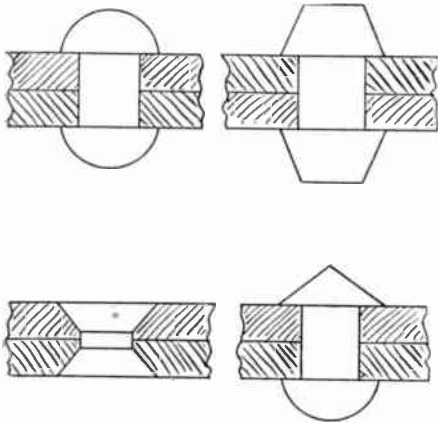

Fig. 1
**MACHINE ELEMENTS.** — We will continue machine fastenings with riveted joints as shown in Fig. 1. Riveted joints are generally represented by two views; a general plan showing the lap or butt joint with plate with the figures for spacing rivets, and a sectional view showing thickness of metal, size and shape of head of rivets. Riveted joints can be grouped into three classes: Government work on warships, boilers, and general structural work.